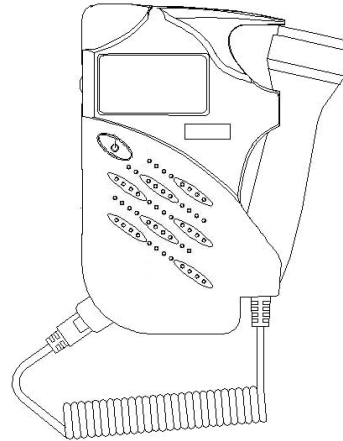
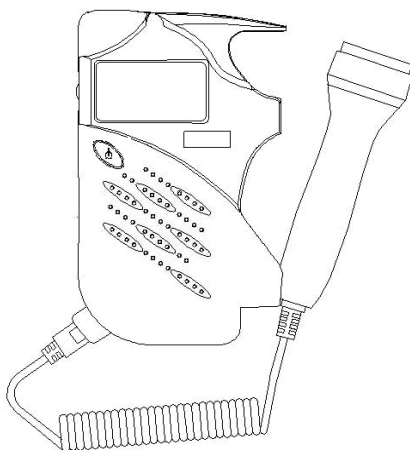

Figure 4-2
Figure 4-3
- 2) Take out the top of the probe (Figure 4-2).
- 3) Take out the whole probe from the frame (Figure 4-3).
- 6) Hold the main unit with one hand and hold the probe with the other hand. First place the after body of the probe into the frame (Figure 4-3), then push the top of the probe in (Figure 4-2).